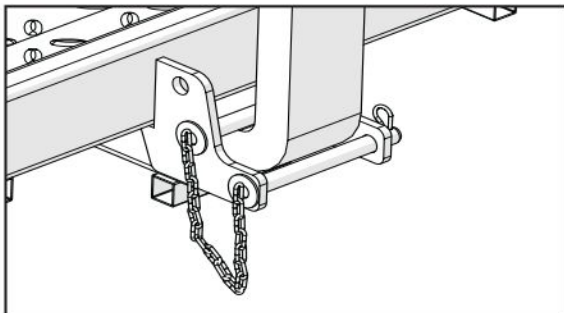

Figure 53 Fork Secured
3. Install the two steel retaining pins behind the heel of each fork. Ensure each pin is secured with a hairpin cotter ③. See figure 53.